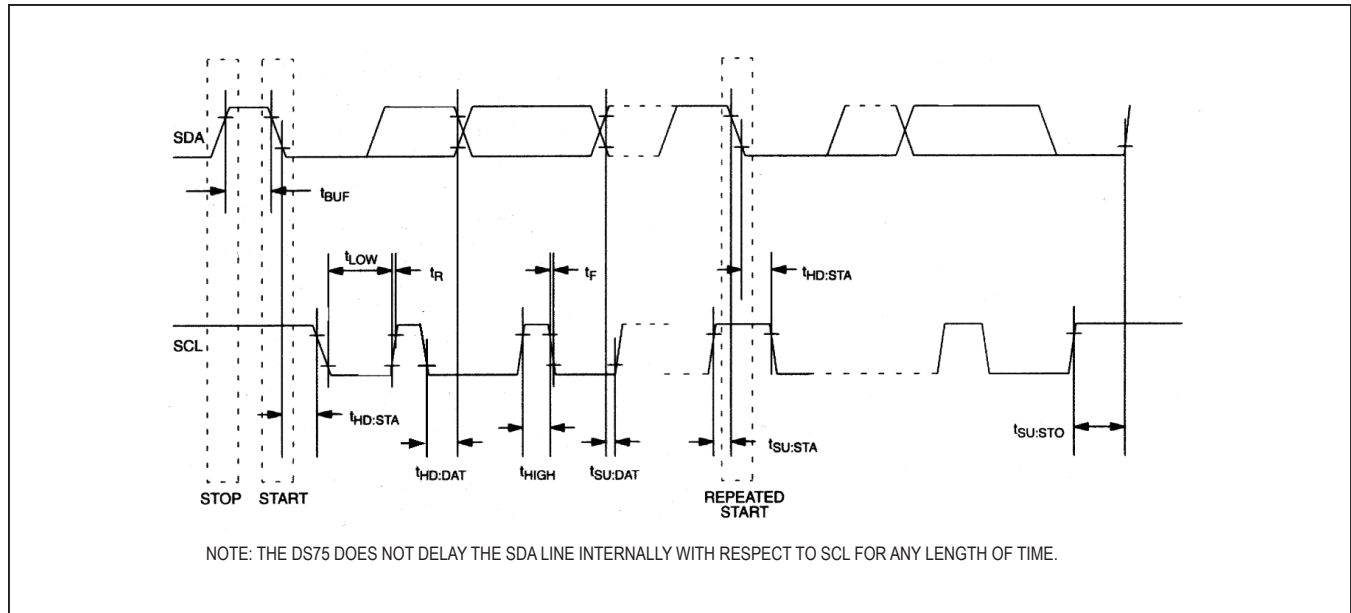

Figure 2. Timing Diagram
**Note 5:** See Timing Diagram in Figure 2. All timing is referenced to 0.9 x VDD and 0.1 x VDD.